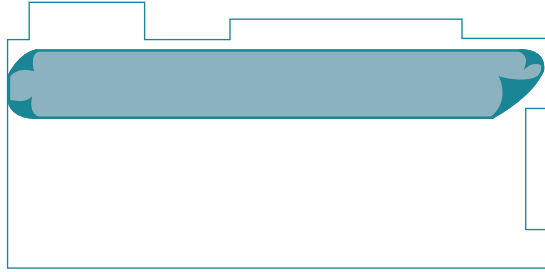

Figure 1 Lining up the First Sheet
- ▶ Adjust the lie of the sheet so that the inner edge is parallel with the axis of the room (fig. 1).